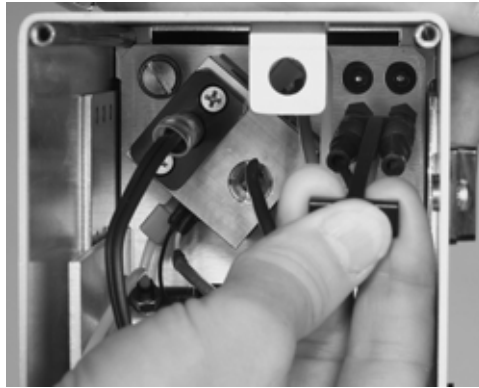

Fig 13-11 : Inserting the UV Lamp Connector
- 12) Align the two UV Lamp Connectors and stem with the receptacles as shown in Figure 13-11 and press straight against the stem to seat the plugs.